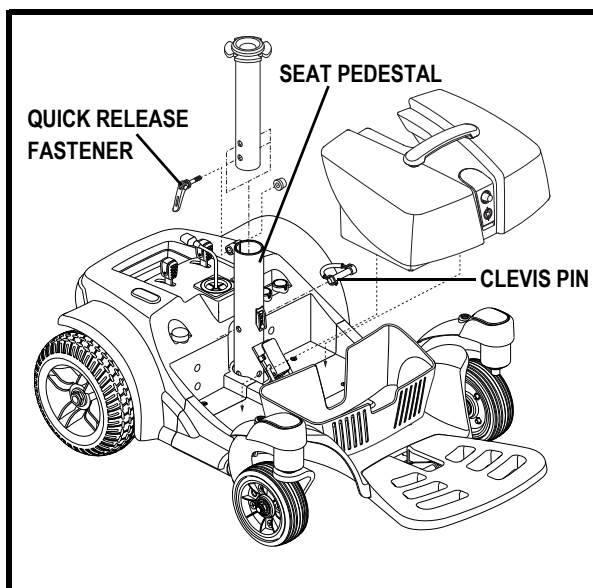
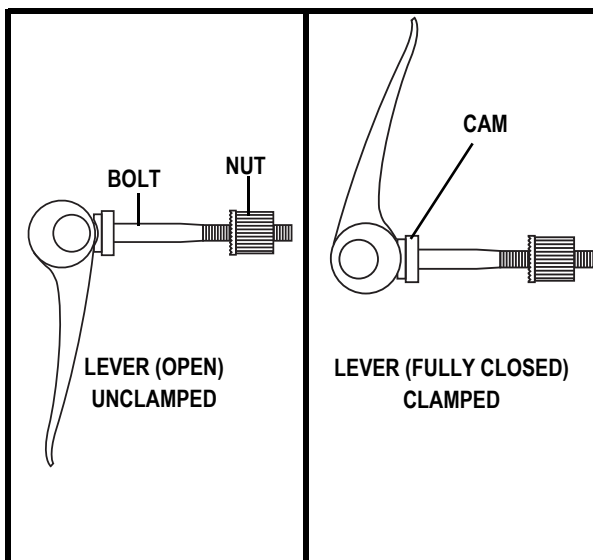

Figure 16. Seat Height Adjustment
Figure 17. Quick Release Fastener Operation
5. Loosen the quick release fastener. **See figure 16.**
9. Tighten the quick release fastener. **See figure 17.**
The quick release fastener removes excess play in the seat pedestal. **See figure 16.** The quick release fastener consists of a bolt, a lever, and a nut. **See figure 17.** The lever has a cam on the end that allows it to clamp into place. The quick release fastener has two states: clamped and unclamped. When the lever is open, the quick release fastener is unclamped. When the lever is closed, the quick release fastener is clamped.